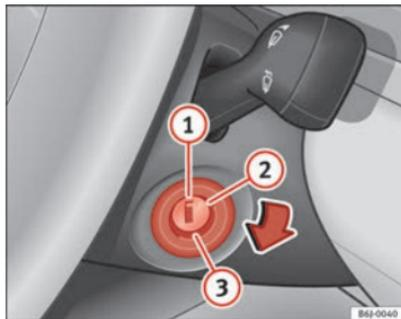

Fig. 99 Ignition key positions
In this position ⇒ fig. 99 the ignition and the engine are OFF and the steering may get locked.
- Turn the ignition key to position ⇒ fig. 99 ②. The indicator lamp  will light for engine pre-heating.
- When the warning lamp turns off, turn the key to position ③ to start the engine. Do not press the accelerator.
- Turn the ignition key to position ⇒ fig. 99 ①.